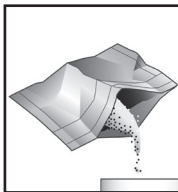

Figure 1
2. Empty the contents of one Cadmium Foil Pack into the reaction tube (fig. 1). Cap the reaction tube and shake it vigorously for exactly **3 minutes**. Allow the sample to sit undisturbed for **2 minutes**.